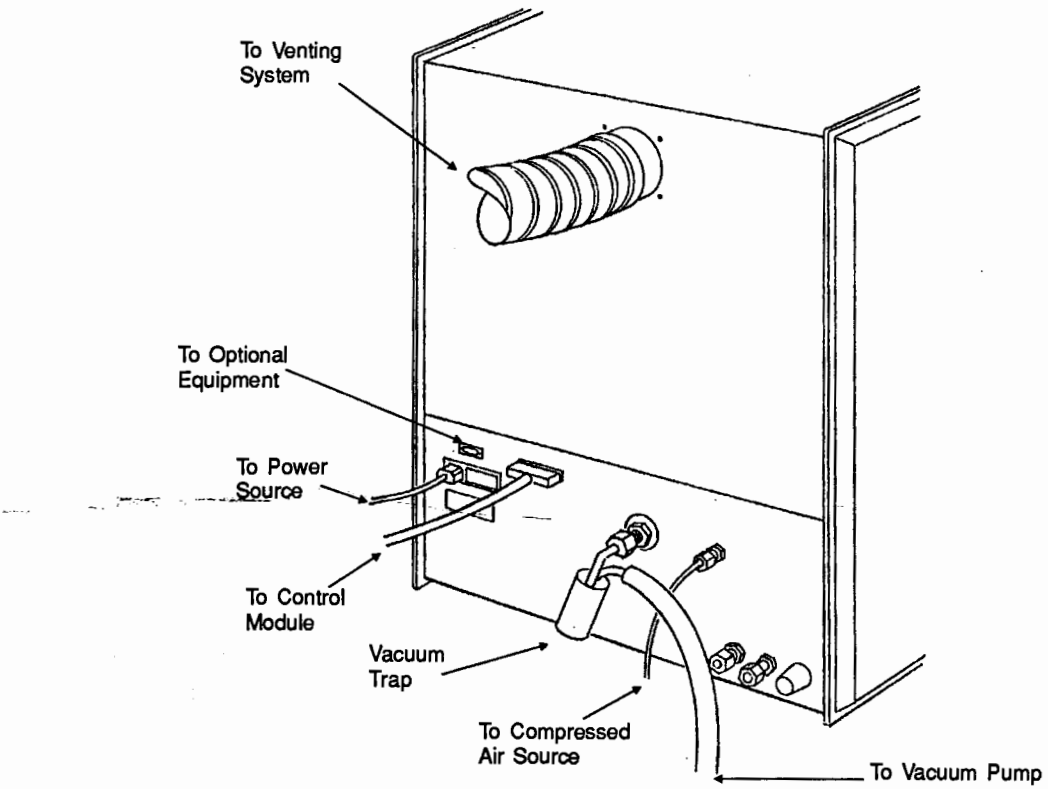

Figure 2-5. Rear Panel Connections
2. Connect one end of the cable provided to the connector on the rear panel of the control module for the primary serial port (COM1). Connect the other end of the cable to the connector on the rear of the PoreSizer labeled RS232. Refer to Figure 2-5.